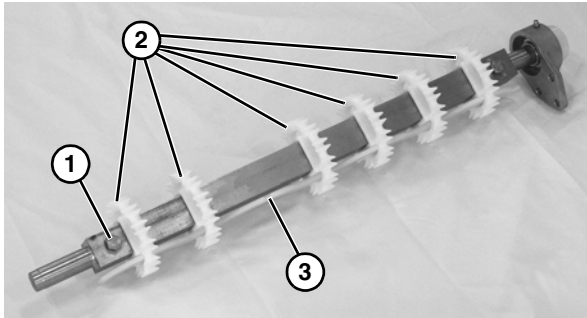

Figure 81
5. Remove bolt (**Figure 81, item 1**), to slide sprockets (**Figure 81, item 2**) from spindle shaft and sprocket alignment bar (**Figure 81, item 3**).